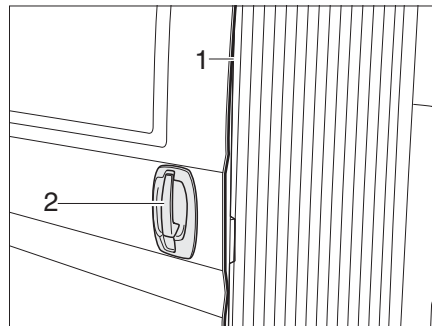

Fig. 22 Sliding door, electric - door handle on outside
- ▷ In order to avoid bruising caused by the electric sliding door, the closing edge has a contact strip (Fig. 22,1). When contact is made, the movement of the sliding door is stopped immediately.
- Opening:* ■ Pull the door handle (Fig. 22,2). The electric sliding door opens completely.
- Closing:* ■ Pull the door handle (Fig. 22,2). The electric sliding door closes and latches into the door lock.